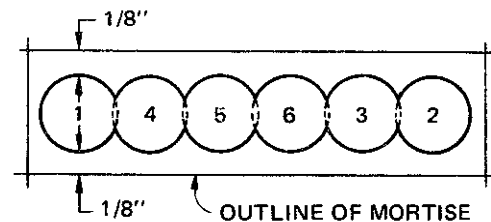

Fig. 9-32 Sequence for drilling holes.
- a. Lay out the mortise on the stock. Cut the outlines of the mortise about 1/8 inch deep with a knife to prevent these edges from splitting. See figure 9-32.
- b. Select an auger bit about 1/4 inch narrower than the width of the mortise. To insure that the depth of each hole is the same, clamp a bit gauge onto the drill at a distance that represents the depth of the mortise. Bore holes marked 1 and 2, figure 9-32, so that the bore comes 1/8 inch from the mortise outline. Now bore the remaining holes, 3, 4, 5, and 6, spacing them so that they overlap.